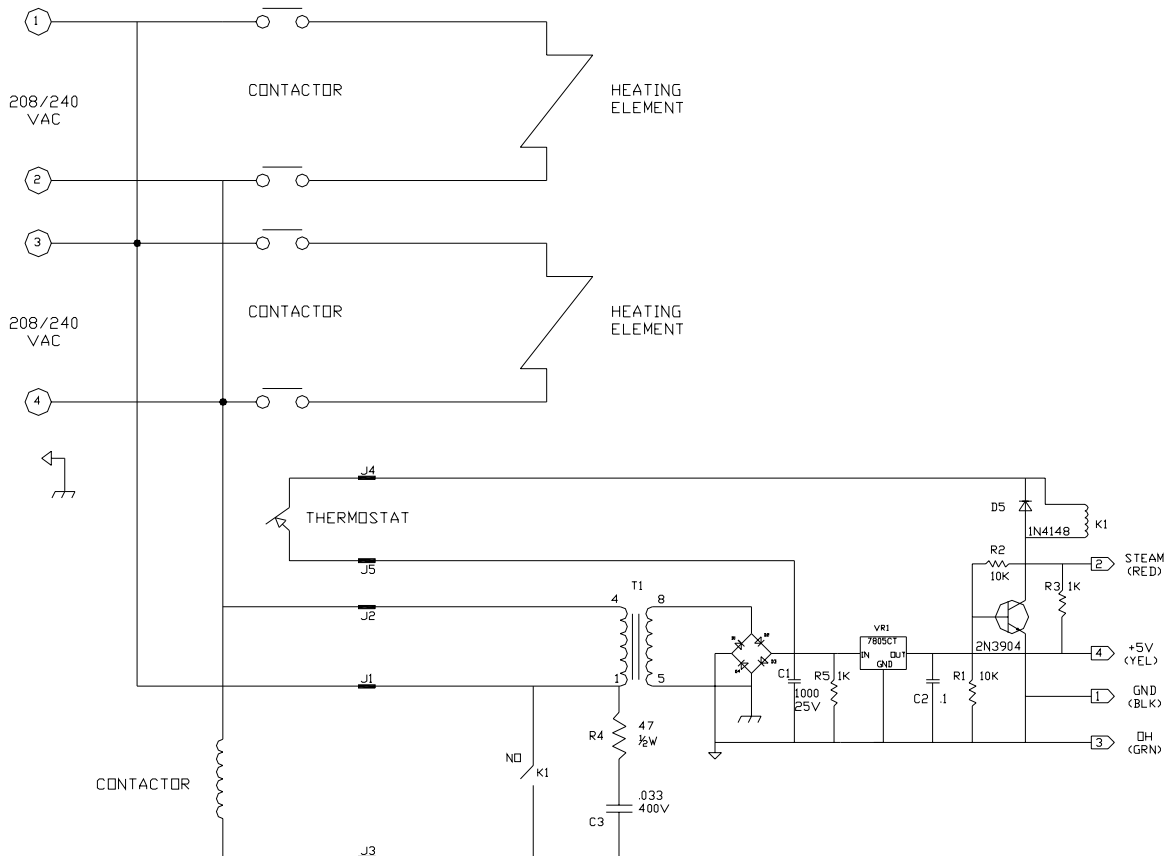

Figure 9
2. Connect 230-volt AC electrical lines to wires labeled 1,2 (breaker one) and 3,4 (breaker two) in junction box on generator, (see figure 9). Do not install a GFI (Ground Fault Interrupter) to this machine, (per article 210-8 in the National Electrical Code). This will prevent tripping.